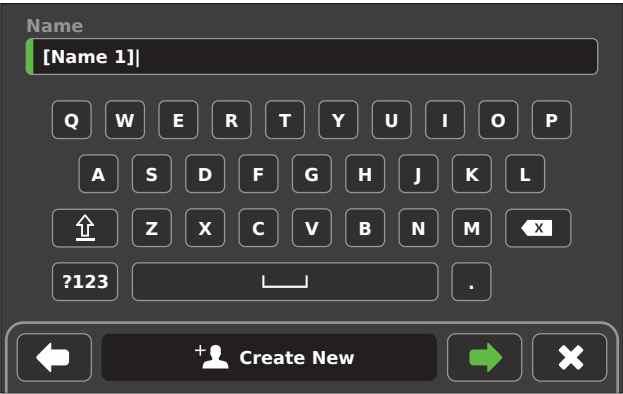

Figure 54 – Enter Preset Name
3. Using the keyboard, enter the new preset name (Figure 54).